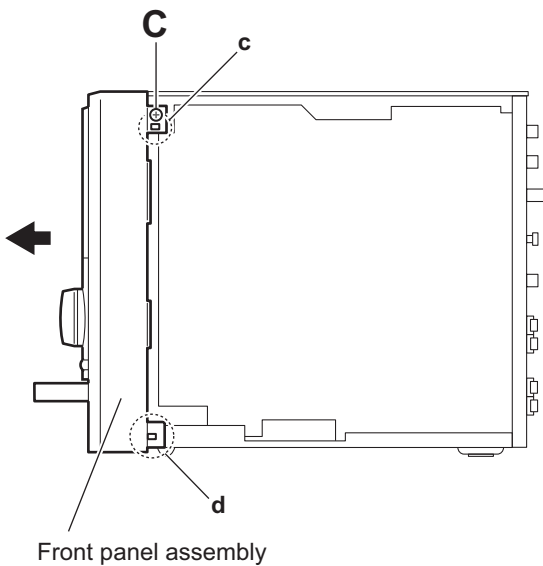

Fig.6
- (3) From the both sides of the main body, remove the two screws **C** attaching the front panel assembly. (See Figs.6 and 7.)
- (4) Release the two claws **c** and claws **d** to draw out the front panel assembly in the direction of the arrow. (See Figs.6 and 7.)